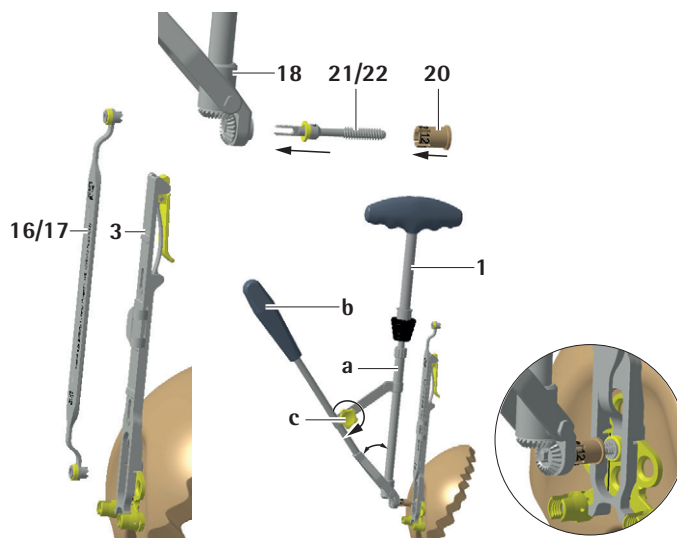

Fig. 8
- ▶ Turn the drill/tap guide **16/17** (SZ114R/SZ115R) so that the tap side connects to the occipital plate, as shown on the left side of the image, see Fig. 8. Make sure to place the guide with its groove facing upward (it can be used to slide the clamp of the plate holder into it). The teeth of the drill guide should come into contact with the bone.
- ▶ Attach the tap bit **21/22** and the depth stop **20** to the angled gear instrument, as shown at the top of the image, see Fig. 8
- ▶ Adapt the angle of the handle **b** to optimize the transmitted force: turn the wheel **c** until the correct angle is reached. Fix the wheel by turning clockwise, as shown on the right side of the image, see Fig. 8.
- ▶ Tap by actuating the T-handle **1** (SZ004R) and applying force on the handle **b**, as shown on the right side of the image, see Fig. 8. Make sure that the shaft **a** of the angled gear instrument is held parallel to the occipital plate, see Drill screw hole.